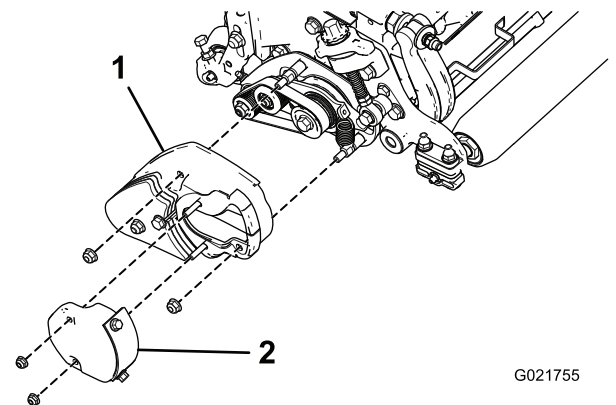

Figure 30
7. Make sure that nuts on the covers (Figure 30) are not over-tightened.